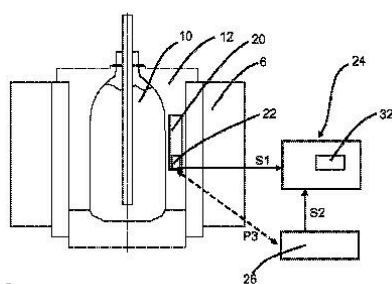

Fig. 2
**B67C 3/026****{Filling the liquids simultaneously}****Definition statement***This place covers:***FIG. 2**